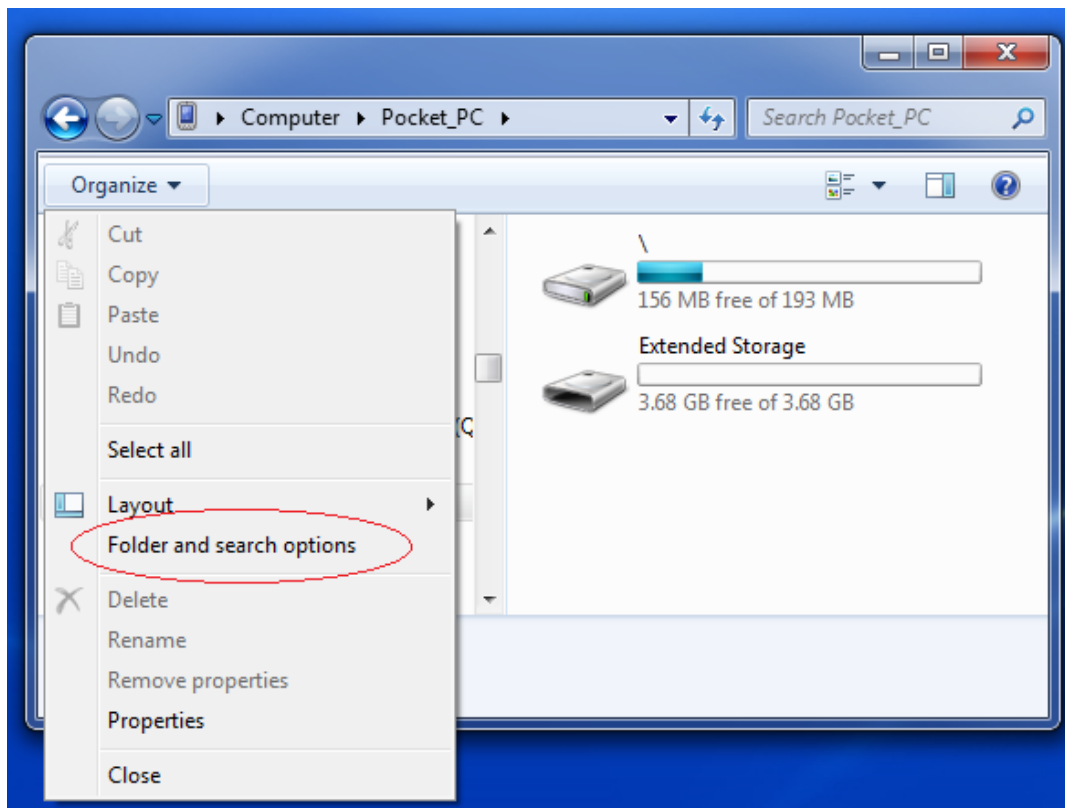

Figure 9 - Organize Drop-down Menu
3. From the resulting drop-down menu, click "Folder and search options" (see Figure 9) to display the Folder Options dialog.